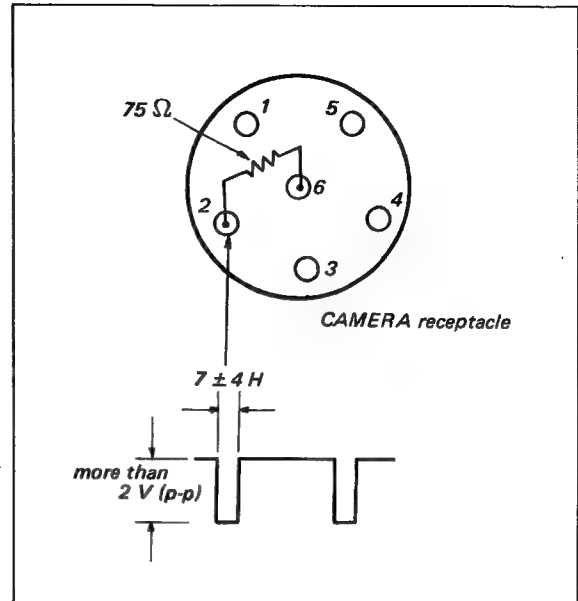

Fig. 6-13. Vertical sync for camera
Check: Waveform shown in Fig. 6-13.
4. Check that the output is as shown in Fig. 6-13.